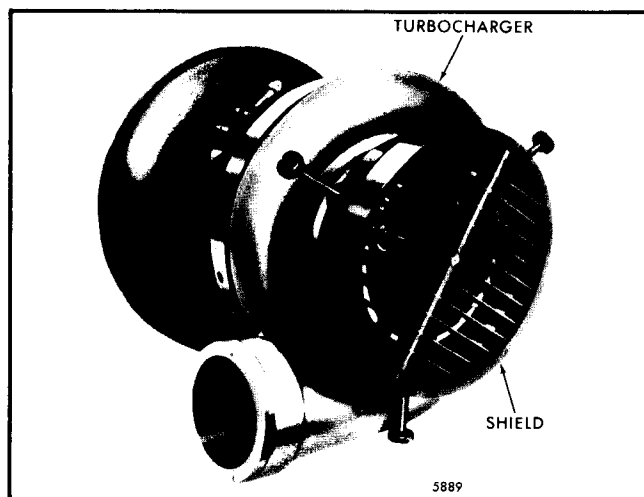

Fig. 4 - Inlet Shield (J 26554-A)
5. Thread eyebolts in two diagonally opposite tapped holes in the top of the blower housing. Then attach a rope sling and a chain hoist to the eyebolts as shown in Fig. 4.
NOTE: A turbocharger compressor inlet shield, J 26554-A, is available for use anytime the engine is operated with the air inlet piping removed (Fig. 4). The shield helps to prevent foreign objects entering the turbocharger and prevents a serviceman from touching the moving impeller. The use of this shield *does not* preclude any other safety practices contained in this manual.